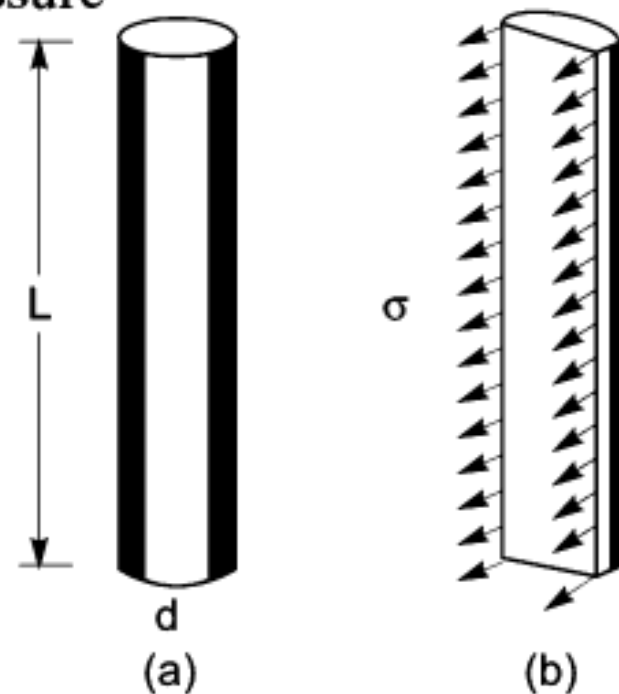

Fig. 1.12 Forces on liquid jet.
1.6.3 Surface Tension on a Liquid Jet. Consider a liquid jet of diameter ' d ' and length ' L ' as shown in Fig. 1.12.